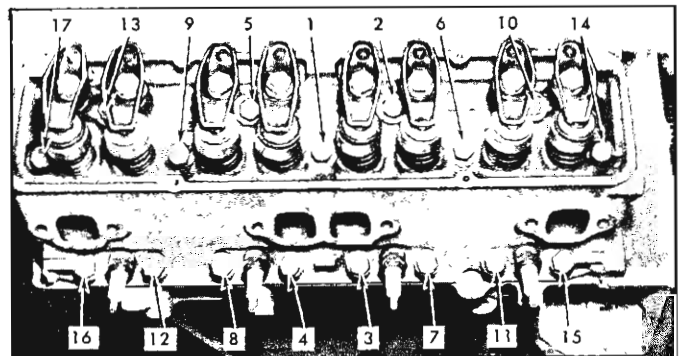

Fig. 73—Head Bolt Torque Sequence
NOTE: Two intermediate length bolts are used: one at No. 17 position and one at No. 14 position (fig. 73).
5. Tighten the cylinder head bolts a little at a time in the order shown (fig. 73). The final tightening torque should be 60-70 ft. lbs.
23. Normalize engine and re-torque cylinder head bolts (Refer to Figure 73).